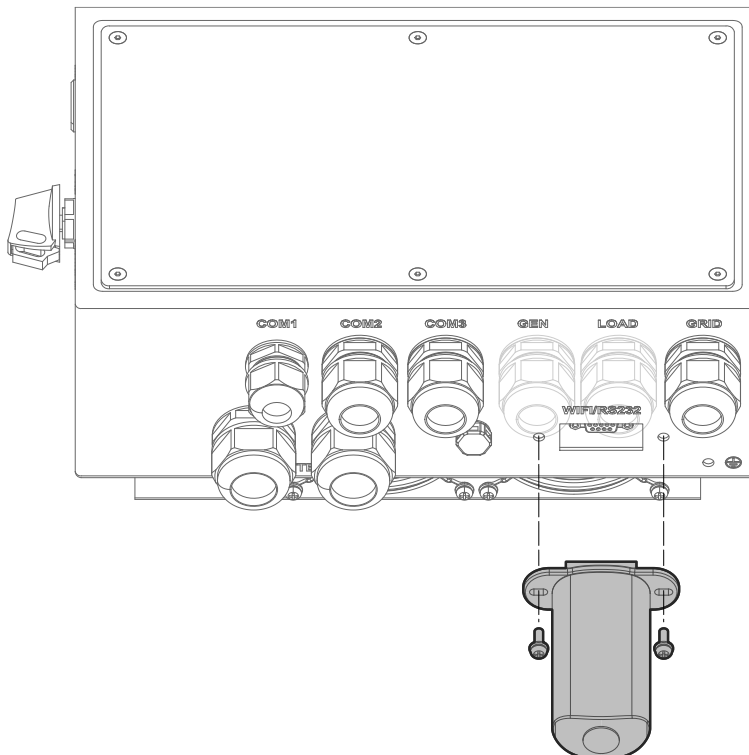

Figure 37: Connecting Wi-Fi dongle to Sol-Ark 5K-1P-N
- Reassemble the dongle housing and plug the dongle into the Sol-Ark. Secure with screws (see figure 37). You will see solid red and green lights after a couple of minutes.